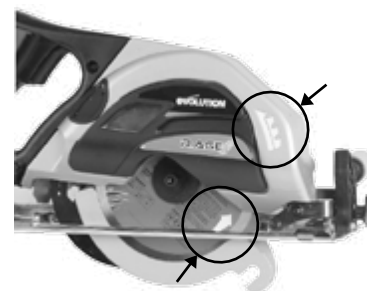

FIG 4
7. Ensure that the direction of rotation arrows printed on the blade, match the direction of rotation arrow found on the chip collection cover. (Fig. 4)